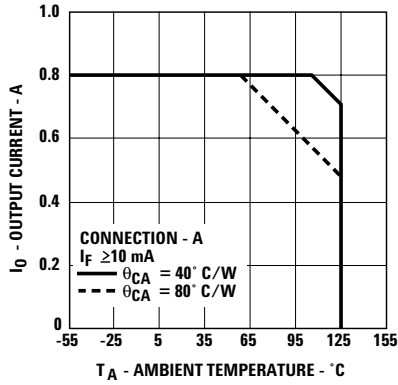
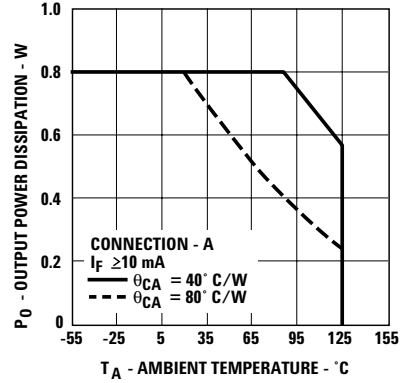

Figure 2. Maximum Average Output Current Rating vs. Ambient Temperature.
Figure 4. Output Power Rating vs. Ambient Temperature.
Average Output Current - Figure 2
- For rating, see Figure 4. The output power P_O rating curve is obtained when the part is handling the maximum average output current I_0 as shown in Figure 2.
IN ORDER TO DETERMINE V_{OUT} CORRECTLY, THE CASE TO AMBIENT THERMAL IMPEDANCE MUST BE MEASURED FOR THE BURN-IN BOARDS TO BE USED. THEN, KNOWING θ_{CA} , DETERMINE THE CORRECT OUTPUT CURRENT PER FIGURES 2 AND 4 TO INSURE THAT THE DEVICE MEETS THE DERATING REQUIREMENTS AS SHOWN.
output pins for a duration sufficient to reach thermal equilibrium. R_{SS} includes the effects of the temperature rise of each element in the thermal model. Rating curves are shown in Figures 2 and 4. Figure 2 specifies the maximum average output current allowable for a given ambient temperature. Figure 4 specifies the output power dissipation allowable for a given ambient temperature. Above 55°C (for $\theta_{CA} = 80^{\circ}\text{C}/\text{W}$) and 107°C (for $\theta_{CA} = 40^{\circ}\text{C}/\text{W}$), the maximum allowable output current and power dissipation are related by the expression $R_{SS} = P_O(\text{max}) / (I_O(\text{max}))^2$ from which R_{SS} can be calculated. Staying within the safe area assures that the steady-state junction temperatures remain less than 150°C . As an example, for $T_A = 95^{\circ}\text{C}$ and $\theta_{CA} = 80^{\circ}\text{C}/\text{W}$, Figure 2 shows
that the output current should be limited to less than 610 mA. A check with Figure 4 shows that the output power dissipation at $T_A = 95^\circ\text{C}$ and $I_O = 610\text{ mA}$, will be limited to less than 0.35 W. This yields an R_{SS} of 0.94 Ω .